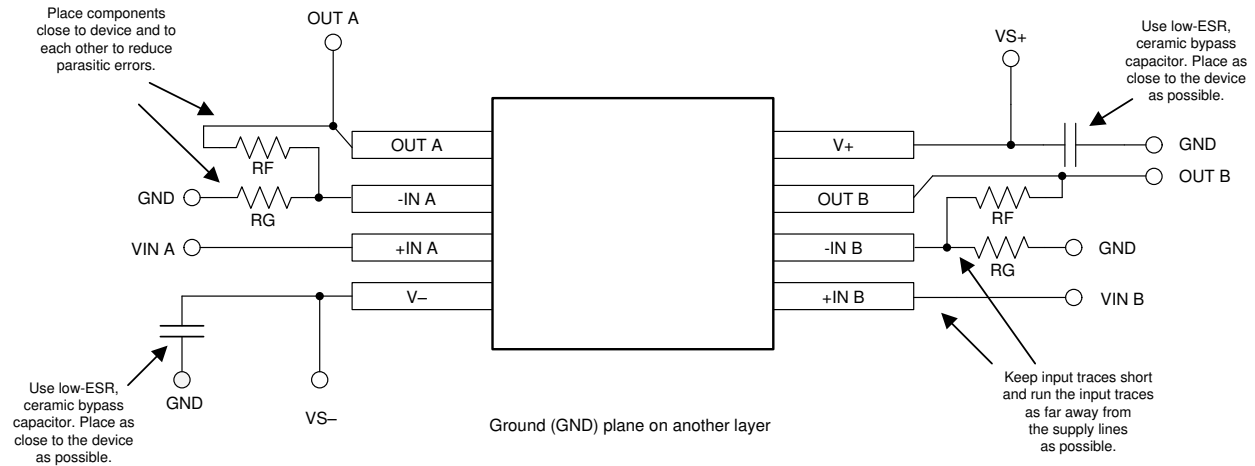

Figure 9-5. Layout Example
- Place the external components as close to the device as possible. As shown in Figure 9-5, keeping RF and RG close to the inverting input minimizes parasitic capacitance on the inverting input.